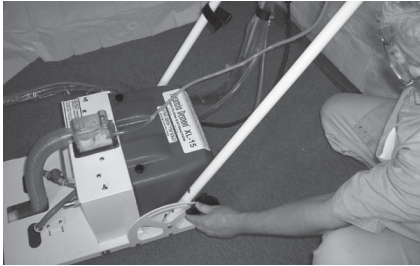
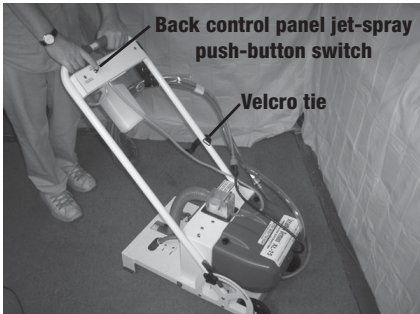

Figure 17: Loosening star fastener to adjust handle height
Figure 18: Push-ahead handle position
3. Jet Spray Switches: For your convenience, there are three jet spray switches. Two on the front control panel and one on the back. On the front control panel there is a rocker switch and a push button switch. On the back control panel there is one push button switch (fig. 18). These switches control the water flow to the carpet.
B. Setting Handle - For your convenience the XL's handle is both adjustable and reversible. *To adjust the handle* just loosen the two star fasteners (fig 17) and retighten at the proper height (usually belt high or below). *To reverse the handle* loosen the two star fasteners, detach the Velcro tie and swing the handle all the way over. Retighten the star fasteners. Now you are in the push ahead position (fig 18).
1. Reverse handle as shown in figure 18.
3. Push jet spray button on (fig 18) and walk behind machine, forward. Push down slightly on the handle as you walk the machine forward. This keeps the vacuum shoe securely on the carpet.